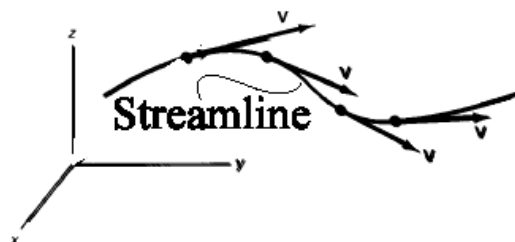

Figure 6
- c) Assuming the container in Figure 6 is large and losses are negligible, drive an expression for the distance X where the free jet leaving horizontally will strike the floor, as a function of h and H . Sketch the three trajectories for $h/H = 0.25, 0.50, \text{ and } 0.75$